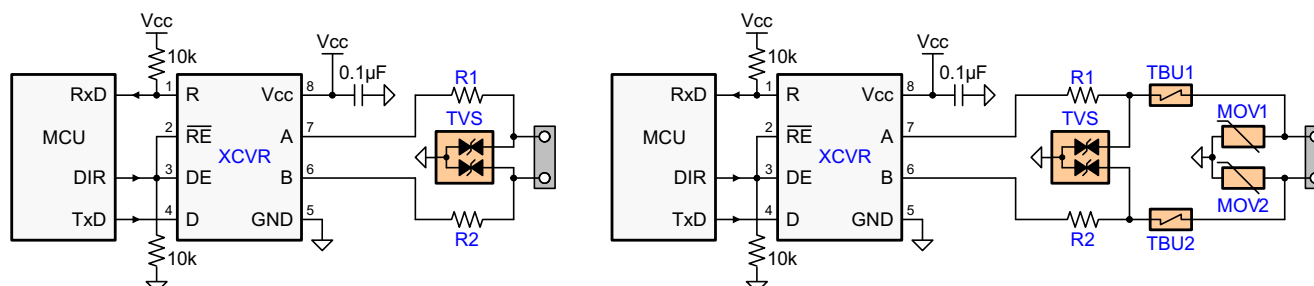

Figure 22. Transient Protections Against ESD, EFT, and Surge Transients
While the transient protection is similar to the one in Figure 22 (left circuit), an additional high-voltage capacitor is used to divert transient energy from the floating RS-485 common further towards Protective Earth (PE) ground. This is necessary as noise transients on the bus are usually referred to Earth potential.